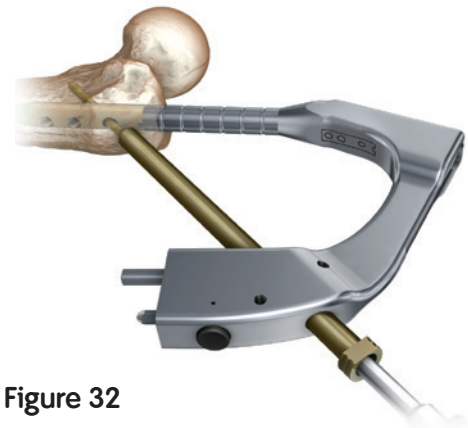

Figure 32
8. Use power to insert the screw through the 9.0mm Drill Sleeve until the laser-etched ring on the hexdriver reaches the back of the drill sleeve (Figure 32).